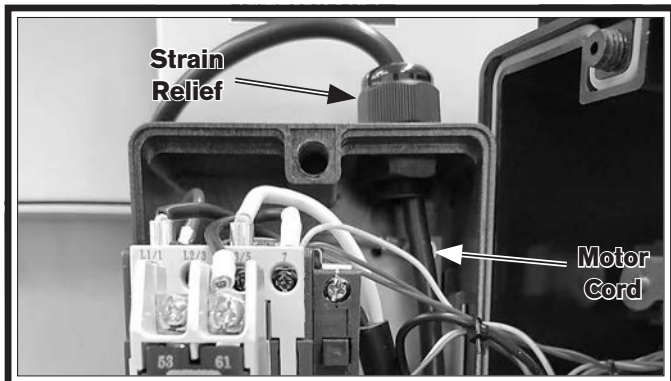

Figure 30. Filter brush motor cord routed into switch box.
- 36.** Pull motor cord from filter brush motor through strain relief at top of switch box (see **Figure 30**).
- 38.** Tighten strain relief (see **Figure 30**) to secure motor cord in position.